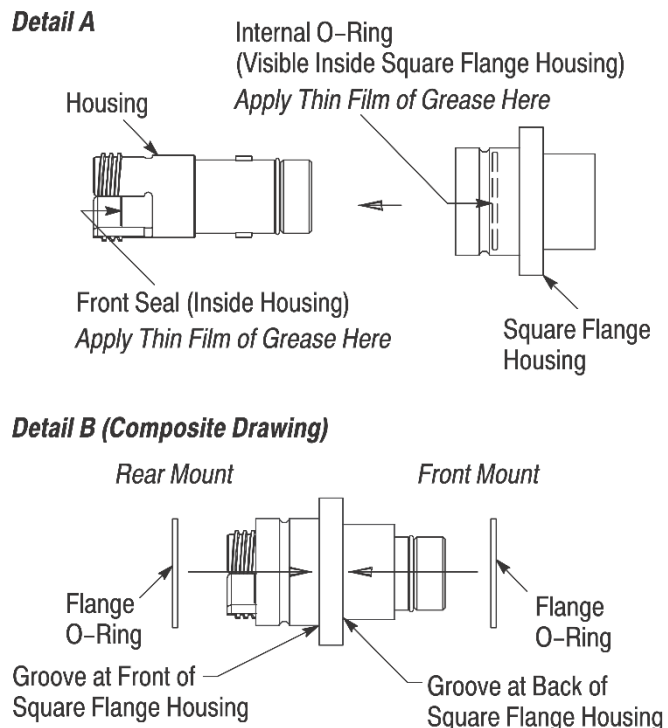

Figure 13
7. Using an applicator swab, apply a *thin film* of grease around the O-ring on the outside of the EB insert, the front seal on the inside of the housing, and the internal O-ring of the square-flange housing. Remove any excess grease. Refer to Figure 13, Detail A.
8. Align the keyways located inside of the square-flange housing with the external keys of the housing, and slide the square-flange housing onto the housing and push to compress the internal o-ring until a distinct bottoming of the two housings is felt. See Figure 13, Detail A.
For mounting the connector onto the front of the panel, install the flange o-ring into the groove at the *back* of the square-flange housing. Refer to Figure 13, Detail B.